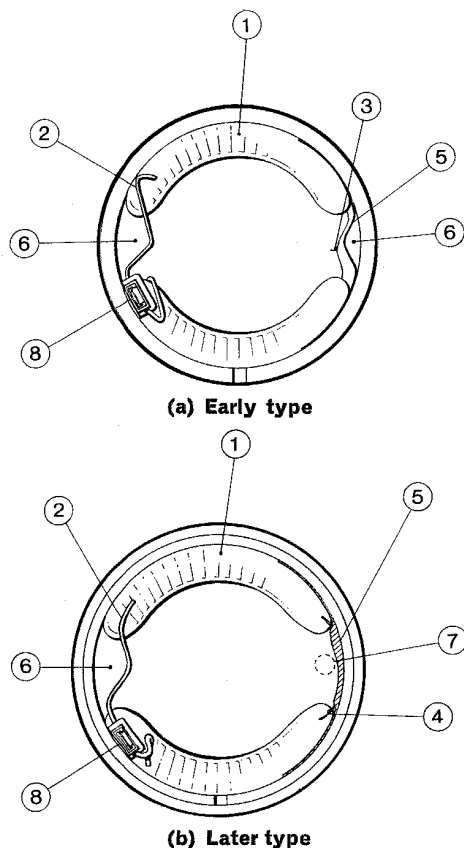

Fig. 8 Insulating and positioning of field coil connections
Fitting the new field coils in the yoke is facilitated, if pole shoe expanding equipment is available to press the pole shoes tight to the yoke while the pole shoe screws are tightened to a torque of 30 lbf.ft. (40.70 Nm). Ensure the interconnecting link insulation piece is correctly positioned before tightening the pole-shoe screws. (See Fig. 8). Finally, rivet the field coil terminal to the yoke.
Before fitting the commutator-end bracket, inspect the inside of the yoke and check for satisfactory insulation and positioning of the field coil connections (see Fig. 8).
- (i) If the interconnecting link is covered with insulated sleeving, it should be positioned the same as the field coil earth-lead (see Fig. 8, item 2).
- (ii) If the interconnecting link is a bare wire, joined at the centre, position the interconnecting link and insulation piece as shown in Fig. 8 (a), items 3, 5 and 6.
- (iii) If the interconnecting link is a bare wire, with an offset joint adjacent one of the field coils and an insulation-piece folded over the wire, position the interconnecting link and insulation-piece flat to the yoke as shown in Fig. 8 (b), items 5 and 4.